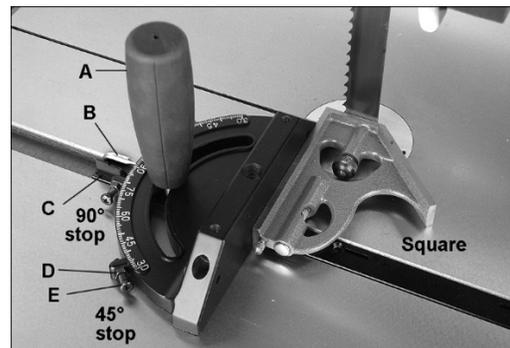
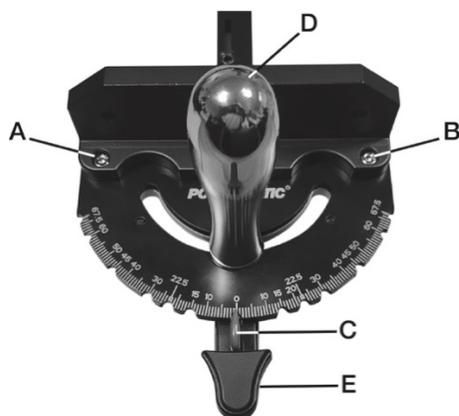

Figure 35: miter gauge adjustment
Figure 35C
The 45° stops can be checked in similar fashion, using an angle gauge similar to that shown in Figure 35.
1. Place a square against miter gauge face, and against flat of blade, as shown in Figure 35. (Place square against flat of blade, not against the teeth which are set wider than the blade body). A wide blade is preferred for this procedure.
2. Loosen screws A and B as shown in Figure 35C.
**Adjusting Miter Gauge Angle for Operations (models PM1800B/B-3, PM2013B/B-3, and PM2415B/B-3, refer to Figure 35):**
7. Unscrew handle (A) just enough to loosen it.
8. Rotate gauge body until pointer (B) lines up with desired angle on scale. You may have to pivot 90° stop plate (C) out of the way to allow the body to rotate.
9. Tighten handle (A).
10. There are three stops: at 90°, and 45° left and right. Each of these can be adjusted by loosening hex nut (D) and turning screw (E) as needed. Re-tighten hex nut (D) after adjustment.
**Adjusting Miter Gauge Angle for Operations (model model PM1800BT/B-3T, PM2013BT/B-3T, and PM2415BT/B-3T, refer to figure 35C):**
1. Unscrew handle (D) just enough to loosen it.
2. Press black tab (E) to release it from stop 0°.
3. Rotate gauge body until red pointer (C) lines up with desired angle on scale.
4. Tighten handle (D).
5. There are 13 stops at 0°, 15°, 22.5°, 30°, 45°, 60°, and 67.5° left and right. Each of these can be adjusted to by allowing the spring stop to lock into each location. Press black tab (E) to move past each stop location.